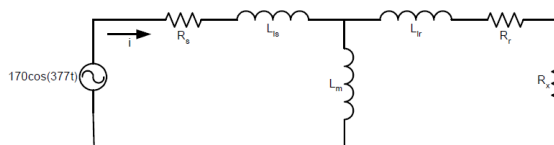

Figure 2.2 A Circuit model for one phase of an induction motor being driven by the utility
2. Figure 2.2 shows a circuit model for the utility supplying one phase of an ac induction motor. The motor system parameters are  $R_s = 0.08 \, \Omega$ ,  $L_{ls} = 1 \, \text{mH}$ ,  $L_m = 40 \, \text{mH}$ ,  $L_{lr} = 1 \, \text{mH}$ ,  $R_r = 0.1 \, \Omega$ , and  $R_x = 33 \, \Omega$ . If the utility voltage is  $170 \cos(377t)$ , i) what is the current into the motor? and ii) At what power factor is the motor operating?